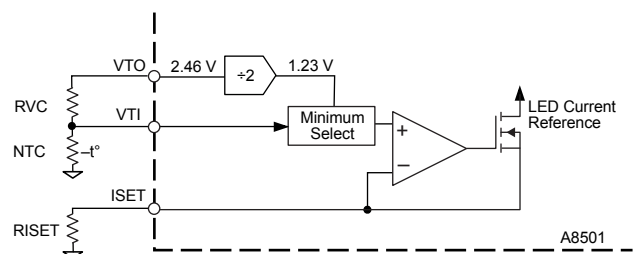
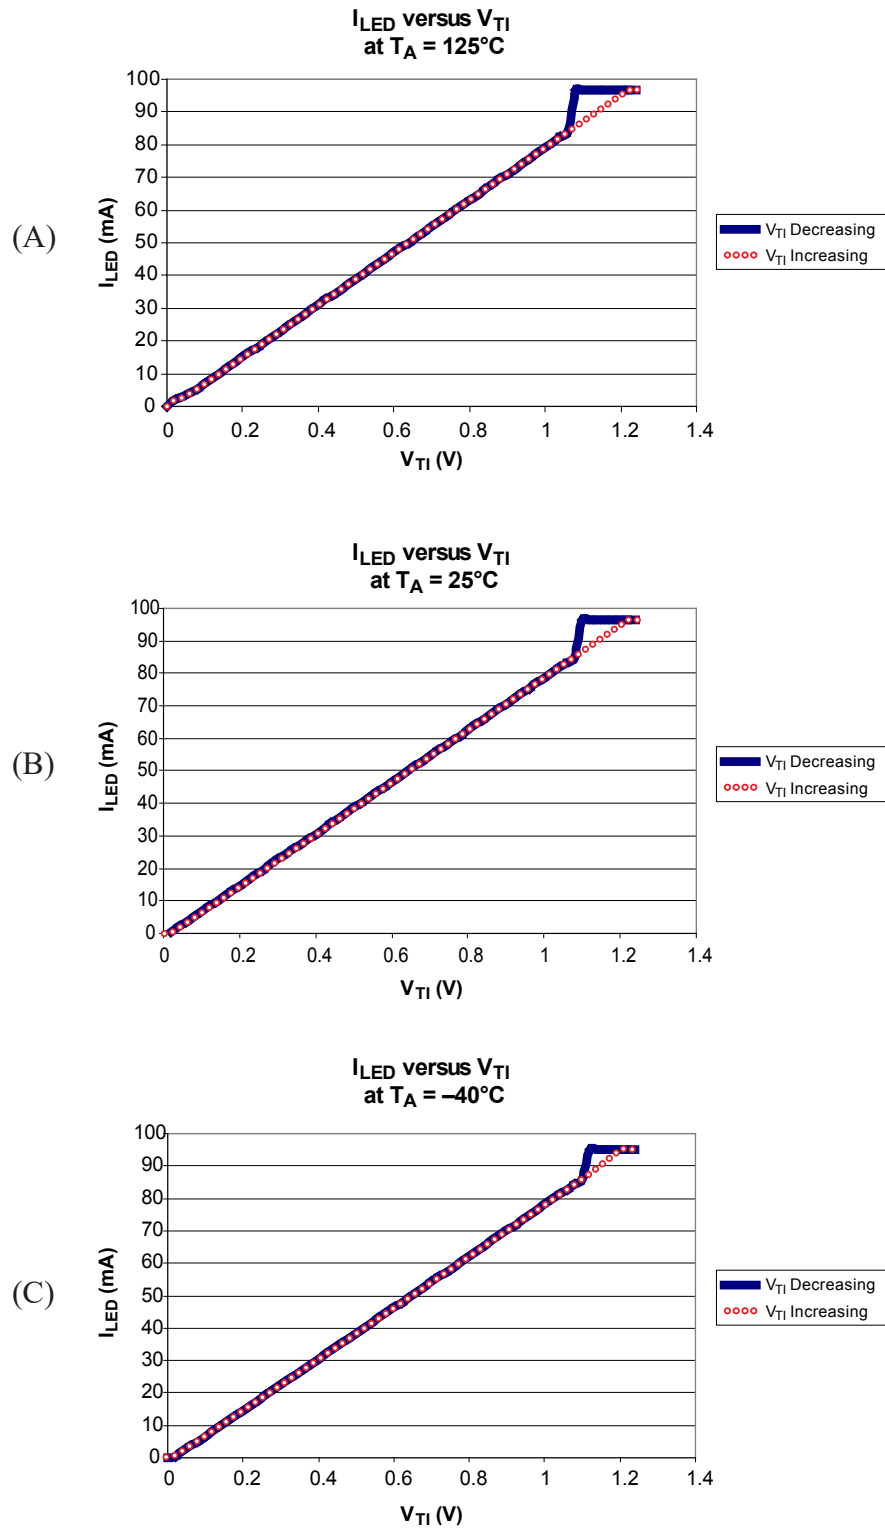

Figure 5: Thermal Derating Reference Circuit
Figure 6: LEDx Current versus V_{T1}
- Analog dimming using the VTI pin. External DC voltage can be applied to the VTI pin to control LED current. LED current varies as a function of voltage on the VTI pin. This configuration is shown in Figure 5.
Thermal derating can be achieved by connecting an NTC thermistor between VTI and ground, as shown in figure 5. When the A8501 is enabled and $V_{TI} > 1.1$ V, 100% current for the LEDs is controlled by the ISET and DIM pins. This is represented by the solid blue curves in figure 6. When V_{TI} falls below 1.1 V, V_{ISET} starts to follow V_{TI} , resulting in I_{LEDx} varying proportionately with V_{TI} represented by the overlap of the dotted and solid curves. The proportion of I_{LED} to V_{TI} , when LED current is controlled through the VTI pin, is calculated as:
There is a hysteresis built into the VTI pin circuit, so while V_{TI} is decreasing, there is a delay before proportional change begins if VTI pin voltage starts above 1.1 V, as shown by the solid blue curves in figure 6. When V_{TI} starts below 1.1 V, or falls below 1.1 V during operation and then starts increasing again V_{ISET} will follow V_{TI} until the voltage reaches 1.23 V as shown by the red-and-white dotted curves in Figure 6.